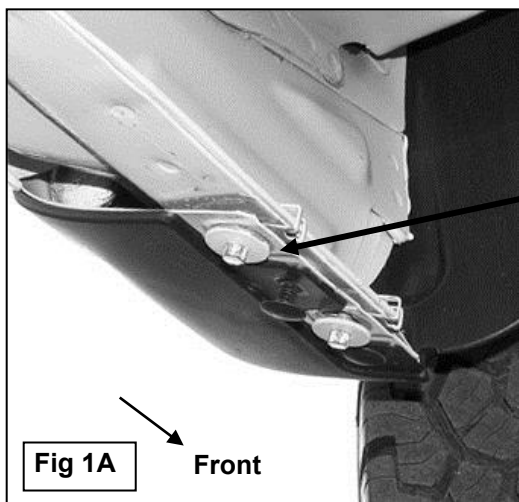

Fig 1A Front
- Starting at the front of the driver side of the vehicle, remove the two small hex bolts and the metal clips holding the bottom of the fender to the body, (**Figure 1A**). **NOTE:** Use a small flat screwdriver to spread the clip apart for easy removal. Due to body panel misalignment from the factory, it may be necessary to open these holes slightly with a 3/8" drill bit, (**Figure 1B**).